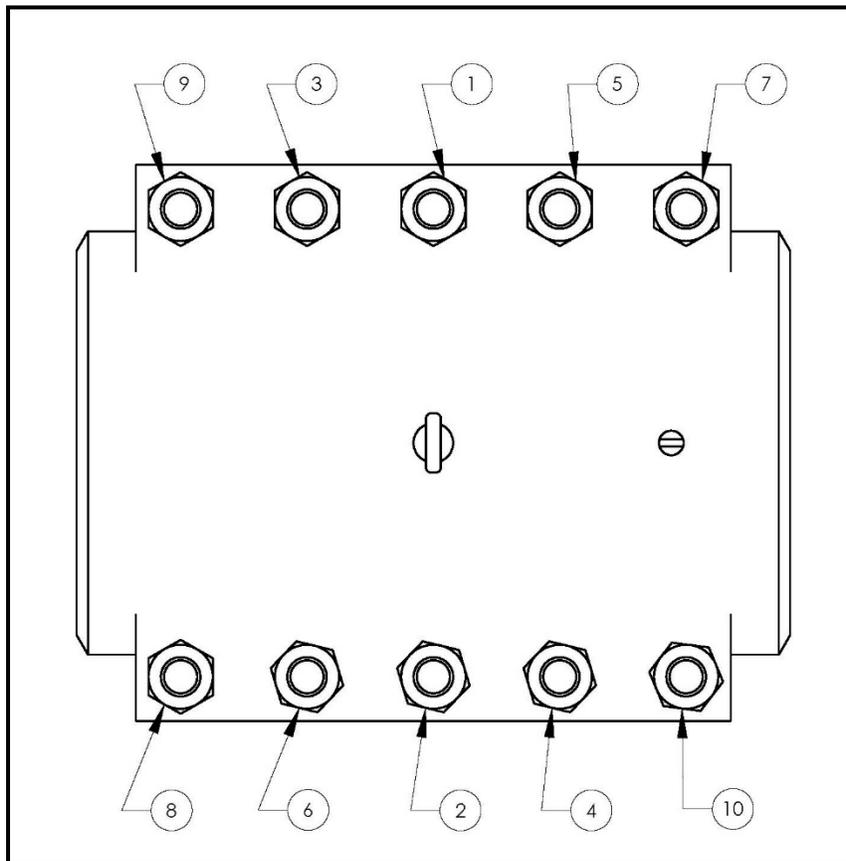

Figure 5
5. Torque the studbolts uniformly as indicated by the corresponding value per bolt size from the **PLIDCO Torque Chart** located on page 11 of these instructions. The best results are obtained by maintaining an equal gap all around the side bars while tightening the studbolts. Ensure there is full nut engagement by having a minimum of 1/4 inch (6.4 mm) of studbolt extending beyond the nut. The sequence for torqueing the studbolts should follow the pattern shown Figure 5, and should be executed repeatedly as follows: